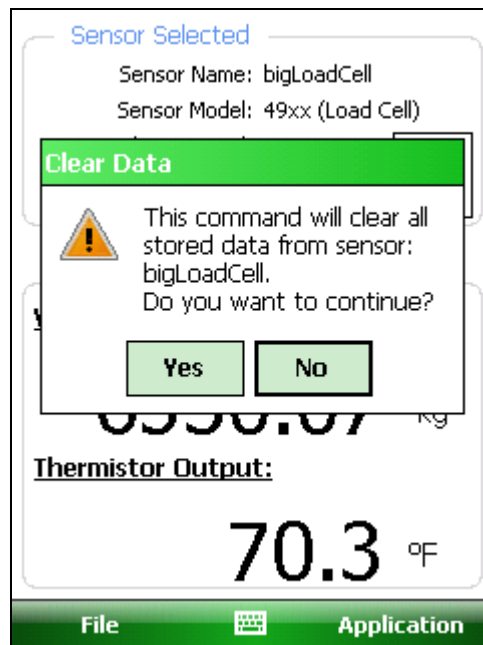

Figure 34 - Clear Data Warning
**Clear Data** – Allows clearing of all readings stored (in the current session) for the selected sensor. Tapping this menu option displays the warning below (see Figure 34). Tapping “Yes” will clear all data (from the current session) and will reset the “Readings Stored:” counter to “0”. This feature has no effect on previously saved data.